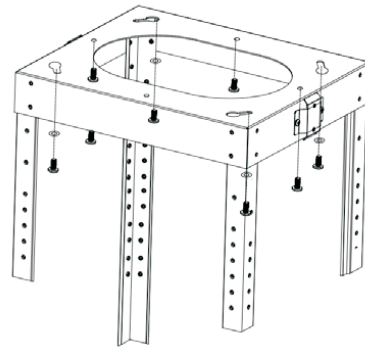

Fig.4
4. Install the truss parts to the ceiling using 8 screws and the washers as shown Fig.4